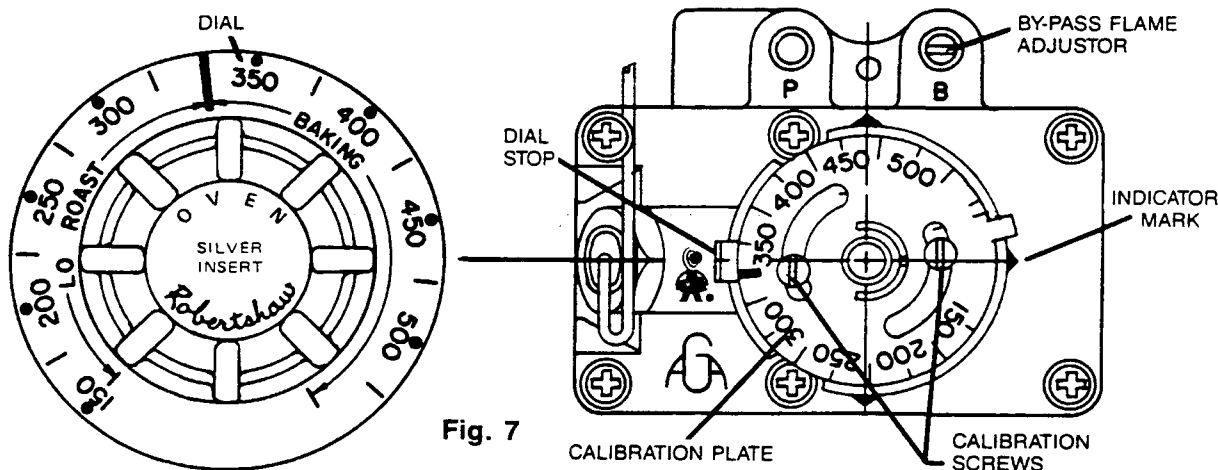

Fig. 7
2. Remove knob. Use indicator mark, as shown in Fig. 7, for all dial settings.